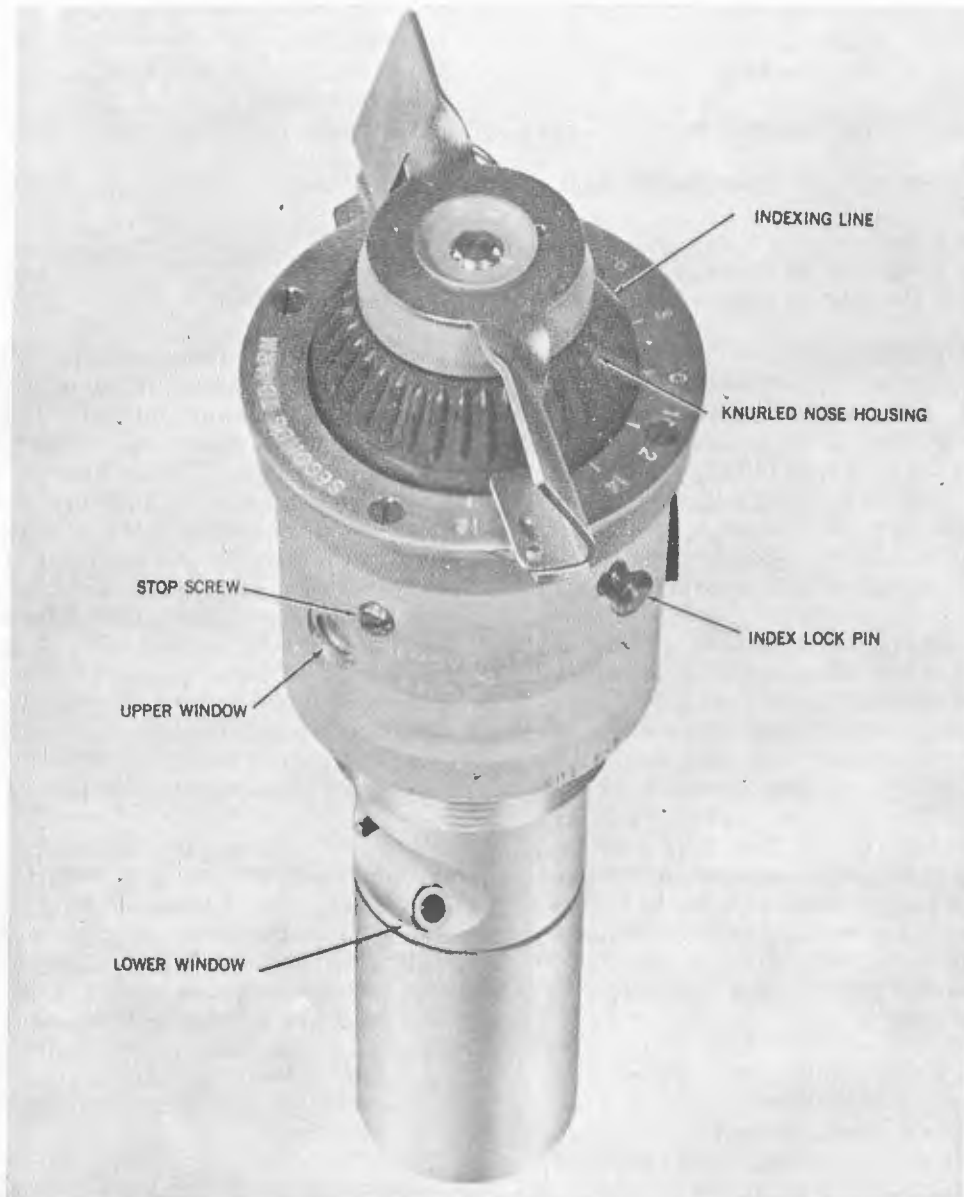

Figure 2-2A. Impact Nose Fuze AN-M904E2
Impact Nose Fuze AN-M904E2, shown in Figure 2-2A, is designed as a replacement for currently employed mechanical nose fuzes (AN-M103A1, M139A1, M140A1, M163, M164, and M165). It is compatible with tactical requirements of both low- and high-speed delivery and provides a constant arming time at bomb release speeds of 170 to over 525 knots.
A mechanical interrupter keeps the detonator out of alignment until after the fuze is armed. The armed condition of Fuze AN-M904E2 is indicated by the presence of a red color in both of the arming windows, shown in Figures 2-2A and 2-2B, indicating that the
1. Depress the index lock pin shown in Figure 2-2A on the side of the fuze.